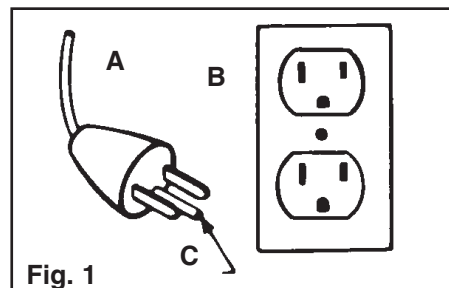
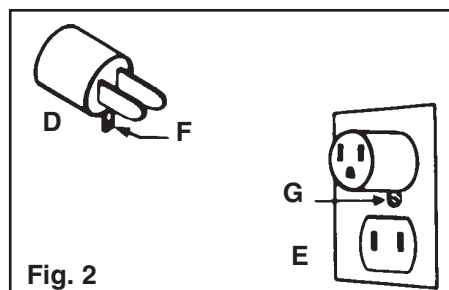

Fig. 1
Fig. 2
Improper connection of the equipment-grounding conductor can result in the risk of electric shock. Check with a qualified electrician or service person if you are in doubt as to whether the outlet is properly grounded. Do not modify the plug provided with the appliance - if it will not fit the outlet, have a proper outlet installed by a qualified electrician. This appliance is for use on a nominal 120 volt circuit and has a grounding plug that looks like the plug (A) illustrated in sketch (Fig. 1).
cle (E) if a properly grounded outlet is not available (Fig. 2). The temporary adapter should be used only until a properly grounded outlet (B) can be installed by a qualified electrician (Fig. 1). The green colored rigid ear, lug, or the like (F) extending from the adapter must be connected to a permanent ground (G) such as a properly grounded outlet box cover (Fig. 2). Whenever the adapter is used, it must be held in place by a metal screw. **NOTE:** In Canada, the use of a temporary adapter is not permitted by the Canadian Electrical Code.